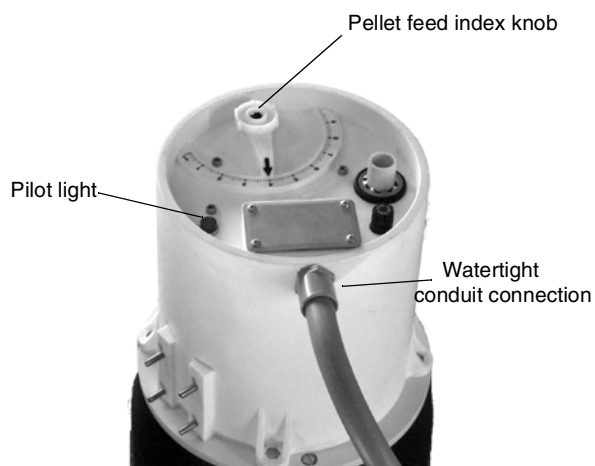
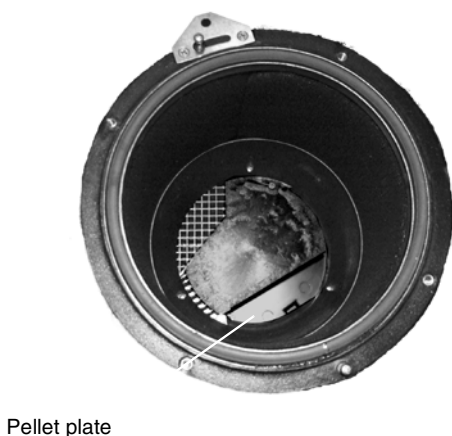

Figure 12
Figure 13
Before adding pellets, run water until the well pump runs. The chlorinator pilot light should be on (Figure 12) and the pellet plate (Figure 13) should rotate with a stop and start motion while the water pump runs.
- D. Use the pellet feed index knob (Figure 12) to make adjustments for individual wells. Start system at setting 5. Once each day, check water for proper chlorine residual with the test kit provided. To decrease chlorine content, pull out and move index knob to a lower setting. To increase chlorine content, move index knob to a higher setting.